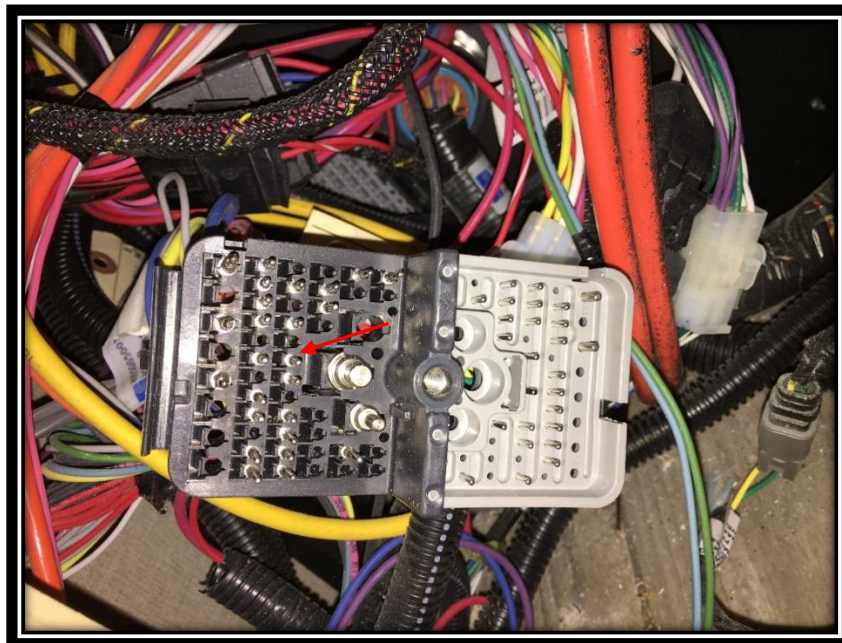

FIG. 4-2
9. Remove connector and Terminal Position Assurance. Refer to FIG. 4-2.